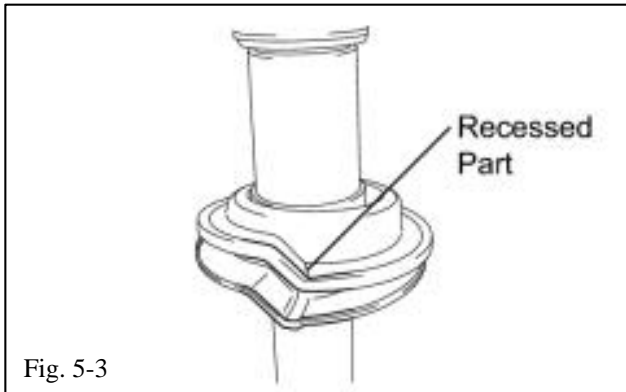

Fig. 5-3
- (f) Transfer the rear lower coil spring insulator to the new spring seat. Confirm that the lower spring insulator is indexed properly and free of debris (Fig. 5-3).